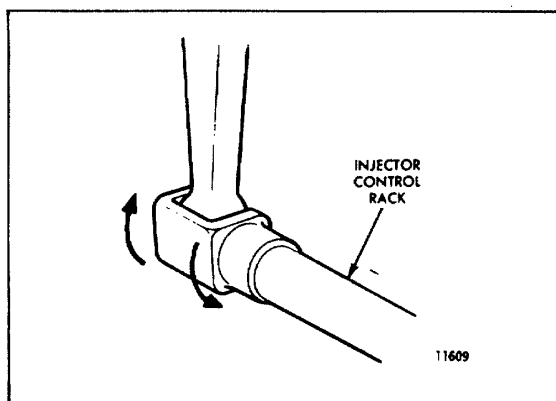
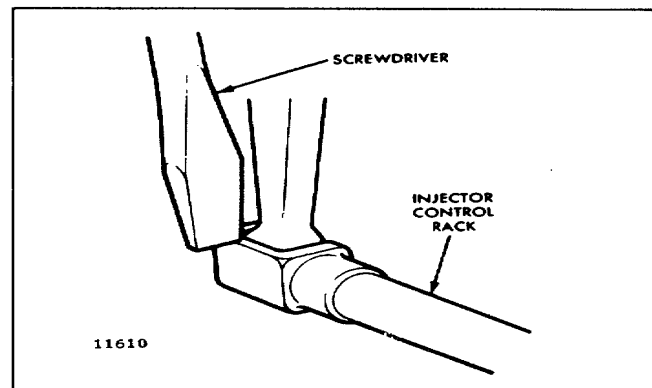

Fig. 4. Checking Rotating Movement of Injector Control Rack
Fig. 3. Checking Injector Rack "Spring"
6. To be sure of the proper rack adjustment, hold the speed control lever in the full-fuel position and press down on the injector rack with a screw driver or finger tip and note "rotating" movement of the injector control rack (Fig. 3) when the speed control lever is in the maximum speed position. Hold the speed control lever in the maximum speed position and, using a screw driver, press downward on the injector control rack. The rack should tilt downward (Fig. 4) and when the pressure of the screw driver is released, the control rack should "spring" back upward. If the rack does not return to its original position, it is too loose. To correct this condition, back off the outer adjusting screw slightly and tighten the inner adjusting screw slightly.